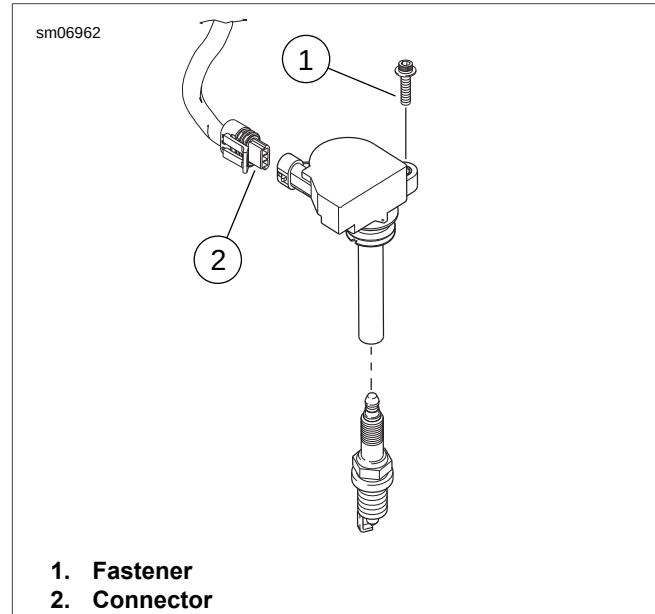

Figure 1-35. Plug Top Coil
3. See Figure 1-35. Remove rear coil fastener (1).
4. Detach connector (2) [83R] at rear coil, [83F] at front coil.